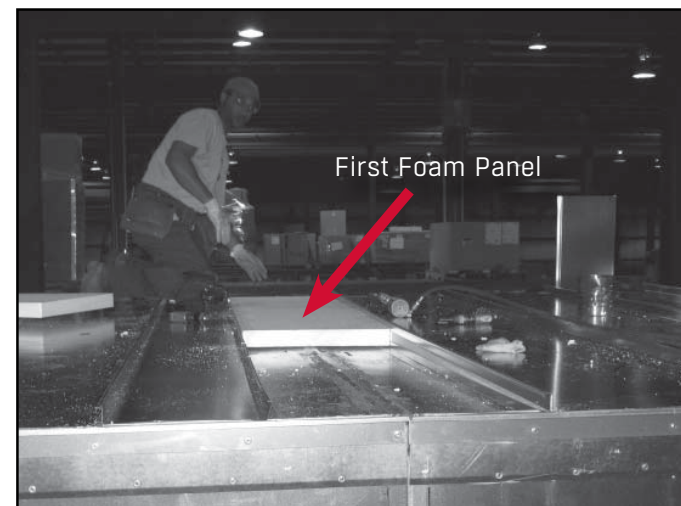

FIGURE 9.
- 16)** Apply caulk at high and low point of roof and add first foam panel. (See **FIGURE 9**)